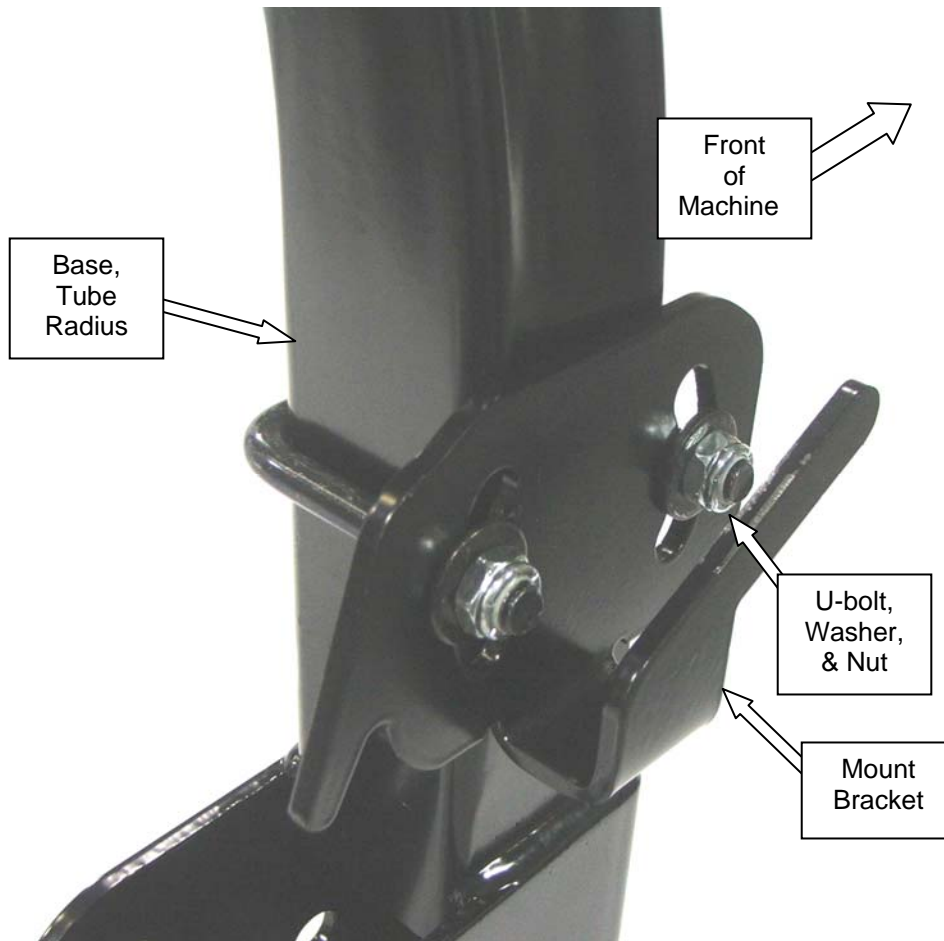

FIGURE 3
10. Assemble on each side (1) Mount Bracket with (1) U-bolt, (2) flat washers and (2) nuts. Orientate Mount Bracket to extend towards front of machine (see figure 3).